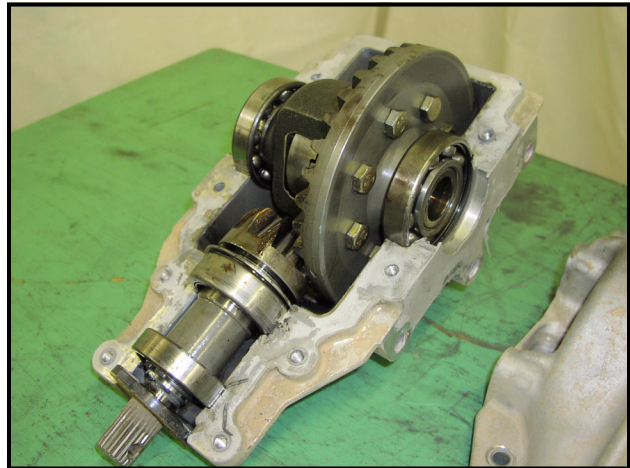

Figure 10-6 Position Housing And Ring Gear
7. Position the bottom half of the housing with the differential pinion and ring gear assemblies so that the ring gear is to the right (driver side) and back (**Figure 10-6, Page 10-4**). See following **CAUTION**.